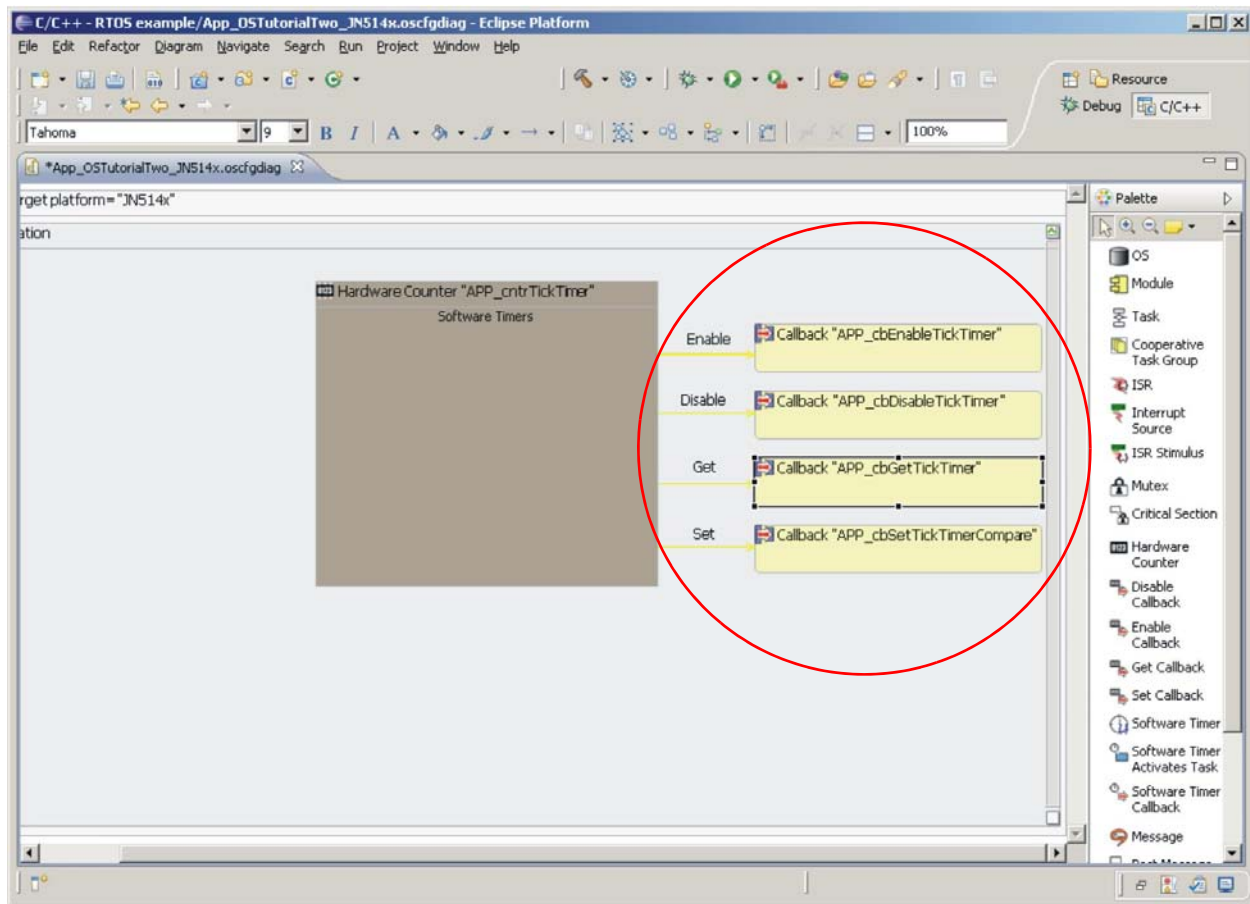

Figure 19: Callback Elements and Connectors
Step 3 Add four callback routines to the diagram, as shown in Figure 19 below, naming them: